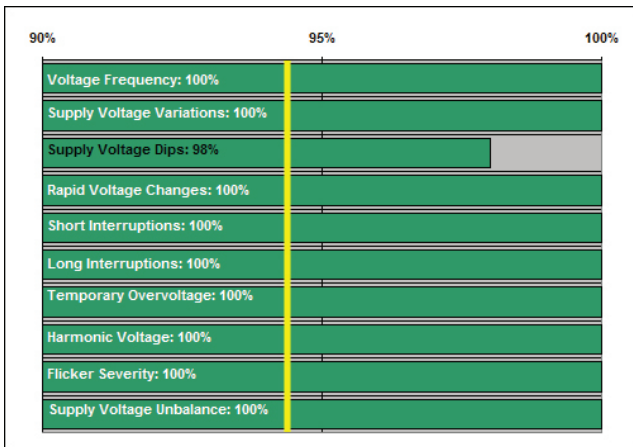

Figure 3: EN 50160 at the Main Service
Figure 3 shows the results of EN 50160 compliance at the main service (1). Similar results were measured at each one of the transformer secondary (2 & 3). The site not only complies with the standard, it is even exceeds it.